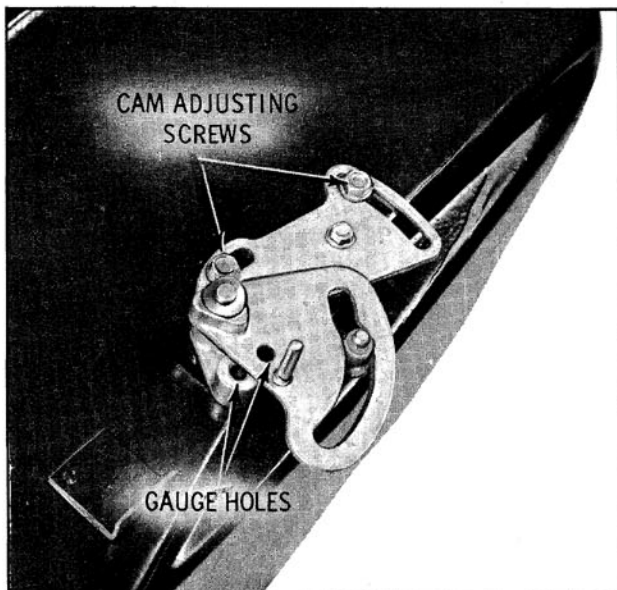

Fig. 14-5 Cam Adjustment
3. While holding the upper half of the cam to the extreme left position, move the lower half until a $3/16$ " pin can be inserted into the gauge holes. (Fig. 14-5)